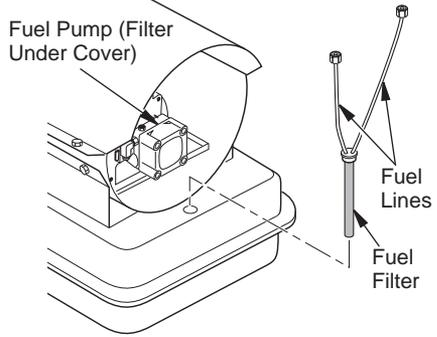

Figure 16 - Removing Tank Fuel Filter
1. Disconnect fuel lines from pump and fuel filter canister (if equipped) with 7/16" wrench (see Figure 16 or 17).